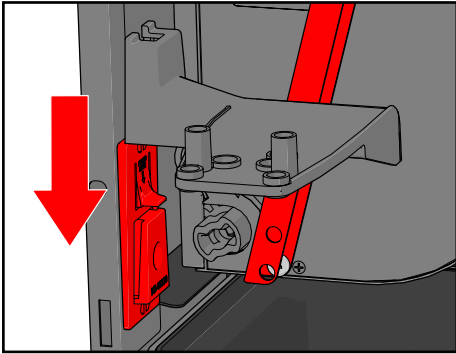

Figure 44.
11. Click the spout arm back onto the cabinet (see Figure 44).